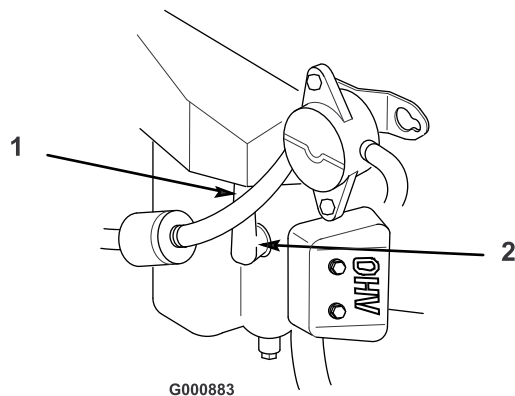

Figure 38
4. Pull the wires off of the spark plugs (Figure 38). Clean around the spark plugs to prevent dirt from falling into the engine and potentially causing damage.
3. Push the wire(s) onto the spark plug(s) (Figure 38).